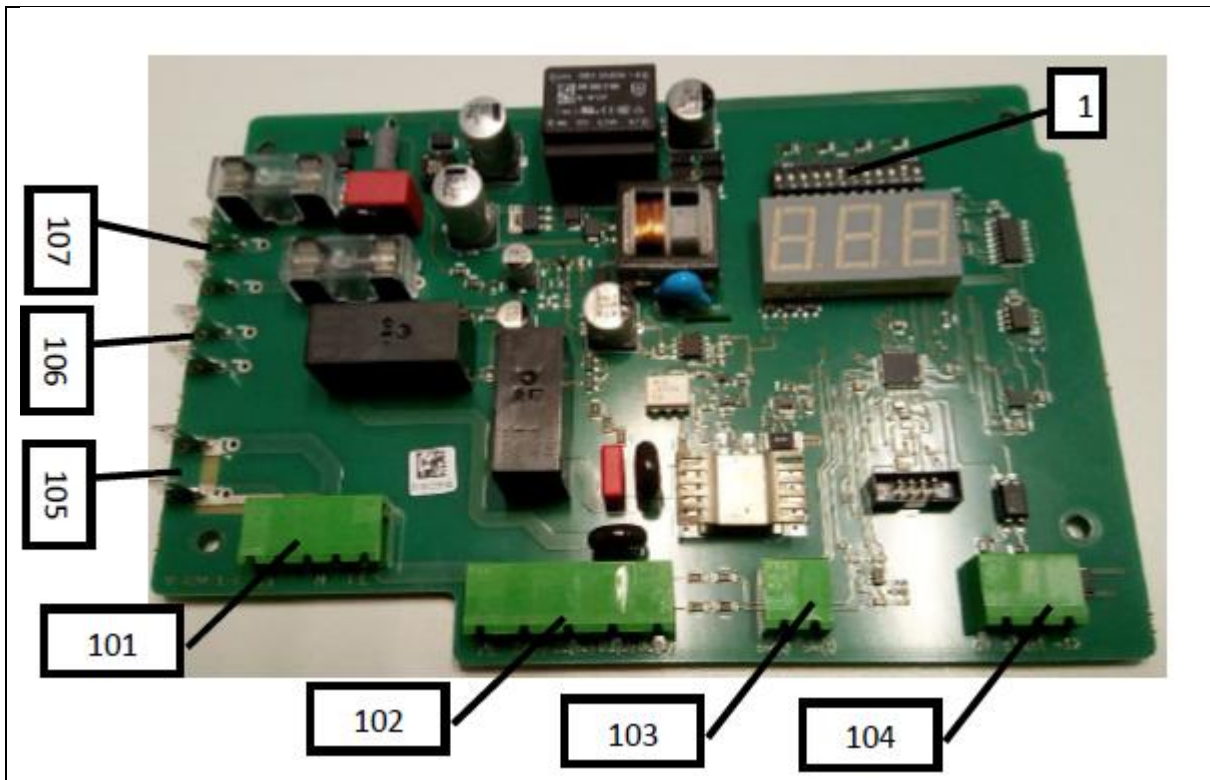

Fig. 10: PCB
The resistance threshold (= switch-off resistance) can be adjusted using the black dip switch element (item 1, Fig. 10) on the control card. When carrying out this change, a qualified electrician should always be consulted who can ensure the safe opening of the control box. (Table inside the control box).